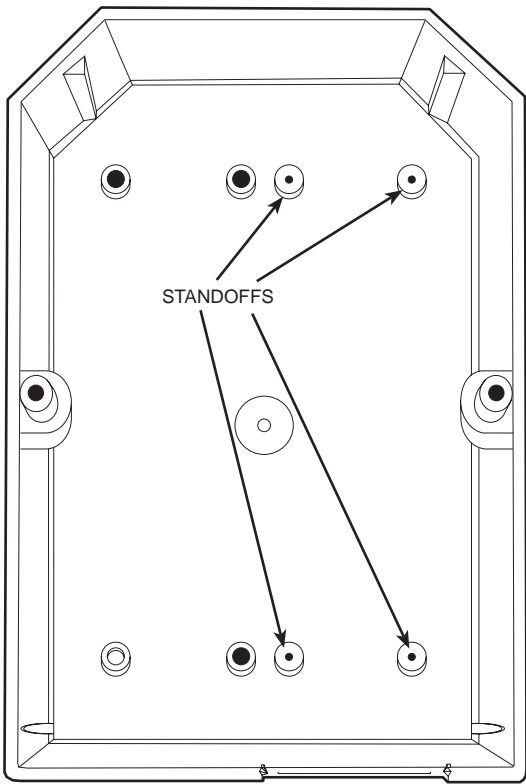

Fig. 1 — Damper Actuator Cover (Inside)
2. Locate the four standoffs inside the actuator cover which have the plastic inserts inside. (The holes will be smaller.) See Fig. 1. Align the relay pack, with the four screw holes over the standoffs with the smaller holes. Be sure 11-pin connector is at the bottom of the cover, near the knockout. See Fig. 2.